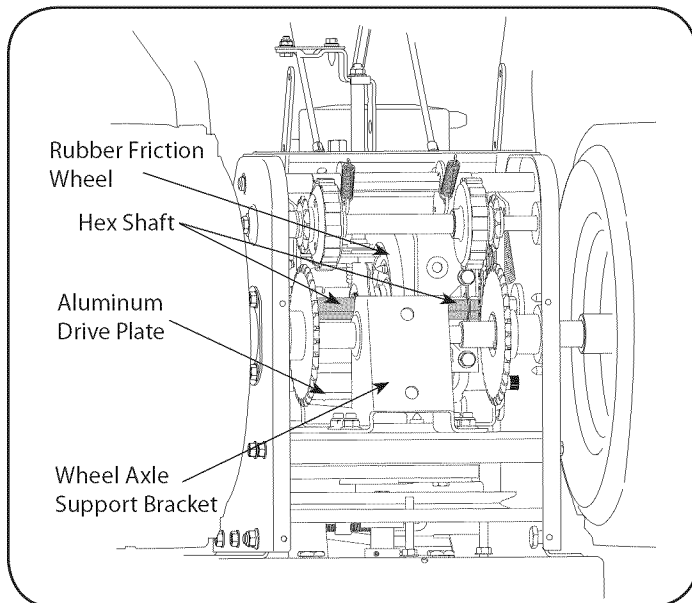

Figure 22
At least once a season or after every 25 hours of operation, remove rear cover. Lubricate all chains, sprockets, gears, bearings, shafts, and the shifting mechanism. Use engine oil or a spray lubricant. Refer to Figure 22.
3. Apply a light coating of engine oil (or 3-in-1 oil) to the hex shaft. See Fig. 22.